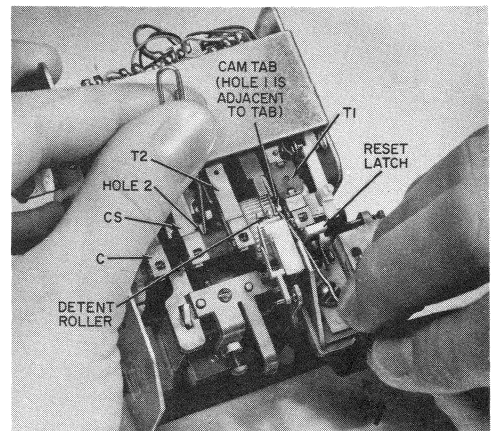

Fig. 16—Decreasing Totalizer Rate (Typical)
Decreasing Rate (Fig. 16)
- (7) Repeat steps (1) through (3).
- (8) Position a second paper clip into the hole on T1 cam indicated as hole 1 (Fig. 16) and rotate cam in direction of the curved arrow as shown.
If hole 1 in T1 cam has been mutilated or clogged preventing use, place paper clip against tab as shown in Fig. 16 and push tab in direction of the straight arrow.